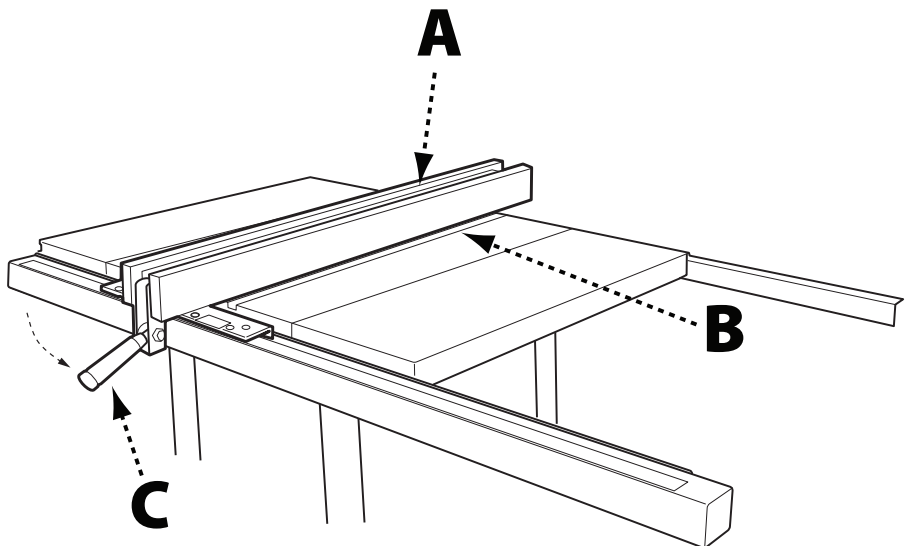

FIGURE 12
1. Move the fence (A) (Figure 12) until the bottom edge of the fence is in line with the edge of one of the miter gauge slots.
2. Push down on the fence clamping lever (C) to lock the fence in place. The edge of the fence should be parallel to the miter gauge slot.